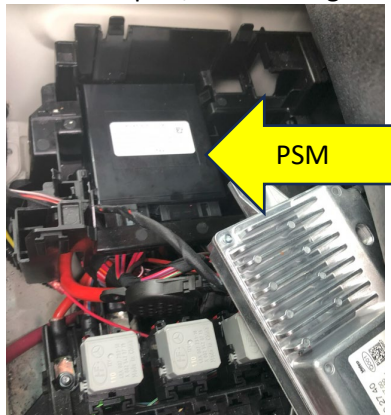
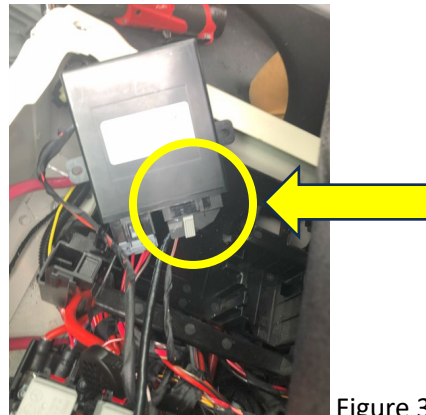
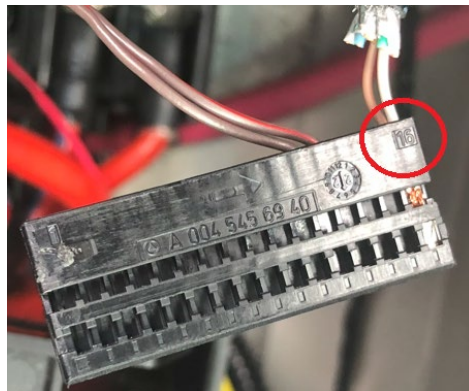
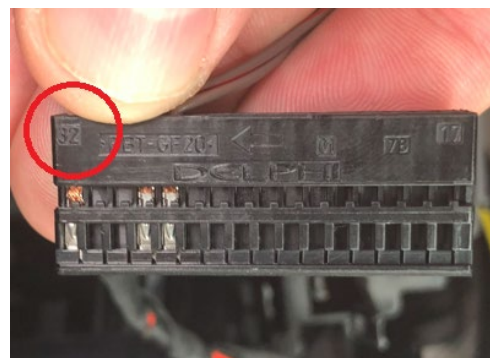

Figure 3A
Figure 3B
Figure 4B, Pin #16
Figure 4C, Pin #32
- Remove the PSM shown in Figure 3A, which is also secured with snap-in clips and remove the PSM to access the connector pins, shown in figure 3B.
- Disconnect the wiring harness, shown in figure 3B & 4A from the PSM. Insert wires from the communication cable, part 5177529 as shown. Figure 4B, Pin 16, connect to brown CAN wire from Wakespeed or RJ45 Pin 1. Figure 4C, Pin 32, connect to white with brown stripe CAN wire from Wakespeed or RJ45 Pin 2